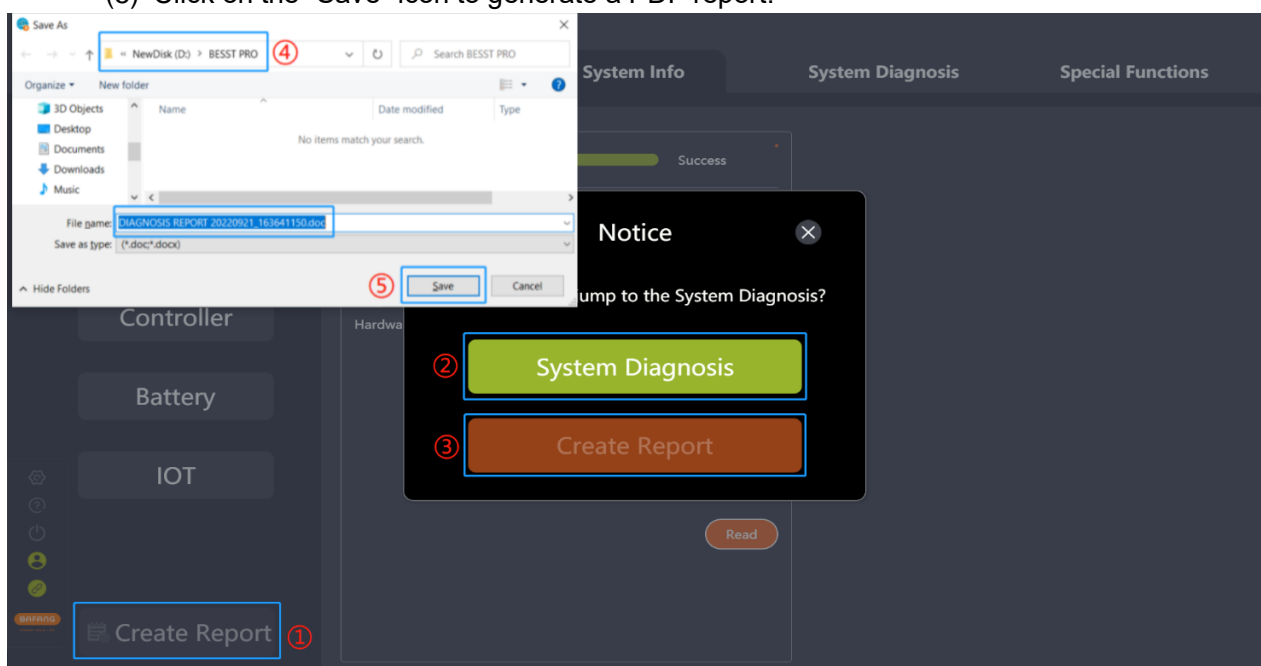

Fig. 7-9 Create report in system information interface
- (1) Click on the “Create Report” icon and a pop-up will prompt “Do you want to jump to the System Diagnosis?” (Fig.7-9).
- (2) For system diagnosis, select “System Diagnosis” to jump to the system diagnosis interface.
- (3) If not, click on the “Create Report” icon.
- (4) Select the local save path.
- (5) Click on the “Save” icon to generate a PDF report.